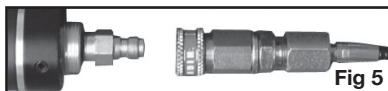

Fig 5
6. Connect the quick-disconnect fitting on the hand pump hose to the fill nipple (Fig. 5).
6. Connect the quick-disconnect fitting on the adaptor's hose to the fill nipple (Fig. 5).